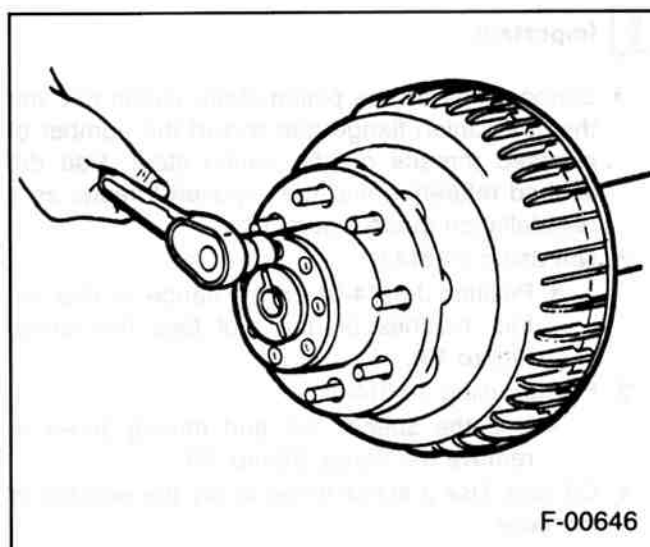

Figure 22—Installing Or Removing Flange-To-Hub Bolts
1. Bolts (35) (figures 22 and 23).
- Rap the axle shaft (34) flange with a soft faced hammer to loosen the shaft.
- Grip the rib on the axle shaft (34) flange with a locking plier and twist, to start shaft removal.
2. Axle shaft (34) from the tube.
1. Axle shaft (34) with a gasket or RTV applied.
2. Bolts (35) figures 22 and 23.